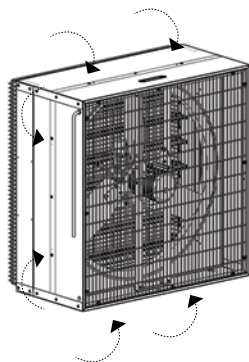

fig. 9
- check that the protection devices (fuses, magnetothermic switches) are correctly sized, and that the phases are connected in the correct order: check that the fan rotates clockwise; look at the exhaust side of the fan and check rotation of propeller (see fig. 9).